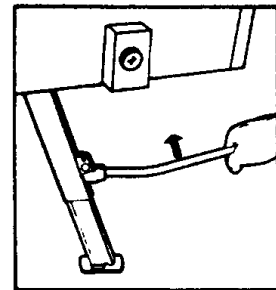

FIG. 17
31. Place the stabilizer jack handle into the ratchet on the stabilizer jack and lift upward slowly. This releases the stabilizer jack and the corner of the trailer will drop somewhat. (See Figure 17.)